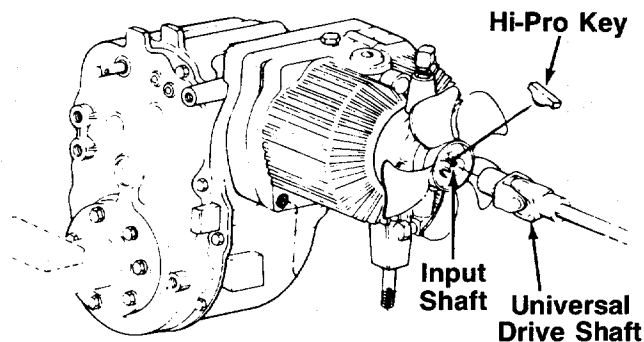

FIGURE 33.
2. Slide the drive shaft assembly forward as far as it will go. The rear universal joint can be removed from the input shaft of the hydrostatic transmission. See figure 33.